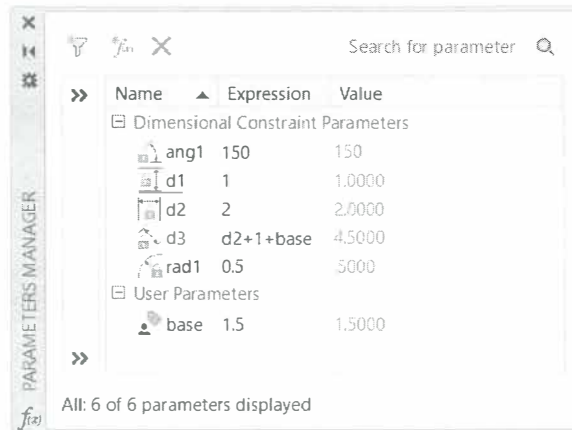

Figure 4–38
4. Change the name of the new user parameter to **base** and change its *Expression* to **1.5**, as shown in Figure 4–38.
5. In the Parameters Manager, change the *Expression* for **d3** to **d2+1+base**, as shown in Figure 4–38, and press <Enter>. Note how the model updates.